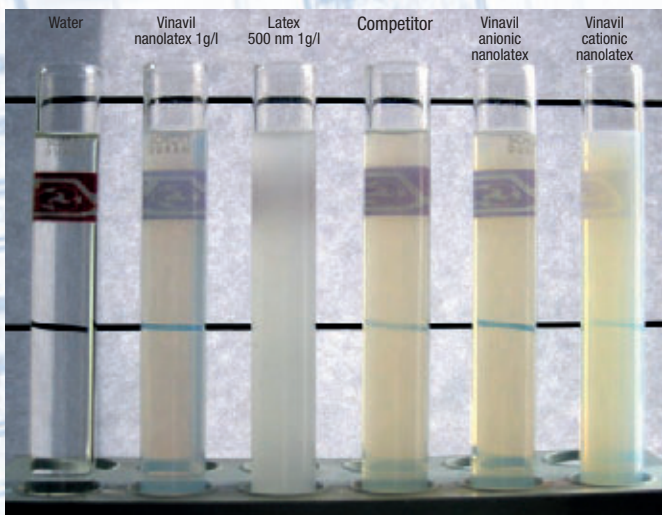

Fig. 4. Transparency of nanolatexes.
- Transparency.** In order to create transparent latex, the particles must be considerably smaller than the wavelength of light. Figure 4 compares various types of latex. It may also be noted that conventional latex, with a concentration of 0.5 g/l dry content, is completely opaque, compared with 30% dry content for nanolatexes.